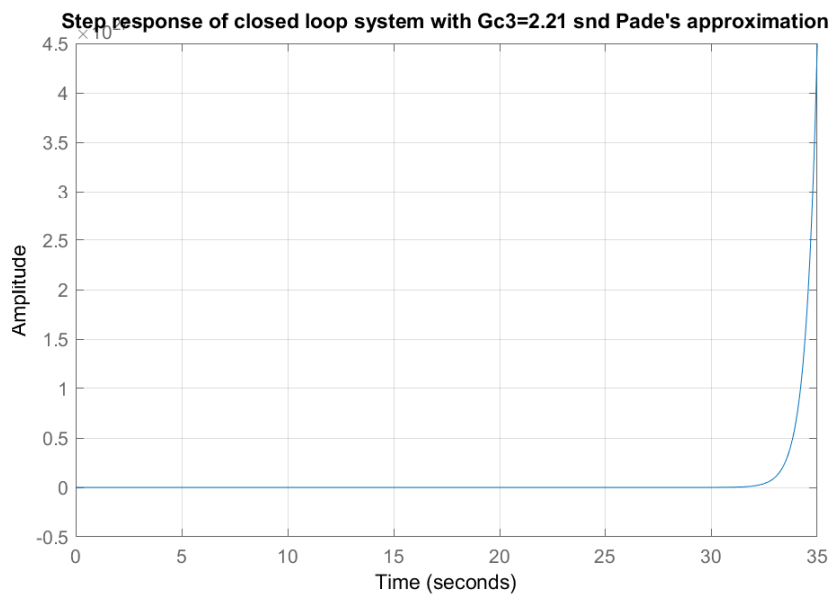

Figure 10: Step response of CL system with pade's approximation
- Drawing the step response of CL system with pade's approximation in figure 10